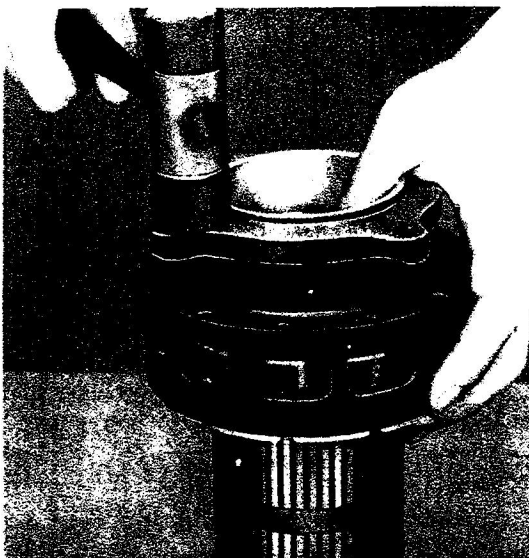

Figure 5-47 Mounting the Back Head on Armature Shaft
(e) Assemble the fan key into the armature shaft keyway and then re-assemble the fan on the shaft. Make certain to assemble the fan so that its recessed face is adjacent to the armature shaft shoulder. Assemble the back head on the armature shaft, lightly tapping the head to snugly seat the ball bearing on the shaft, see Figure 5-47. Assemble a tab lock on the drive end of the armature shaft, then screw on the nut finger tight.
(f) Secure the fan (21) to the armature shaft with the Woodruff key (22). Make certain that the recessed face of the fan is adjacent to the armature shaft shoulder. Slip the spring washer (23) on the armature shaft. Assemble the back head (33) on the armature shaft, lightly tapping the head with a soft-faced hammer to seat the ball bearing snugly on the shaft, see Figure 5-47. Fit the lock ring (25) in the groove in the armature shaft, then fit the front plate (26) on the shaft.